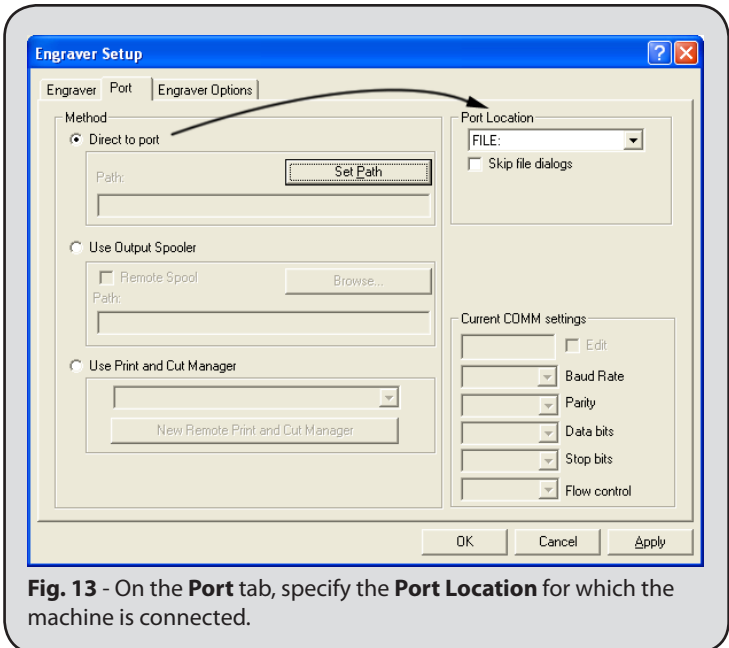

Fig. 13 - On the Port tab, specify the Port Location for which the machine is connected.
14. Click the **Port** tab (Fig. 13).